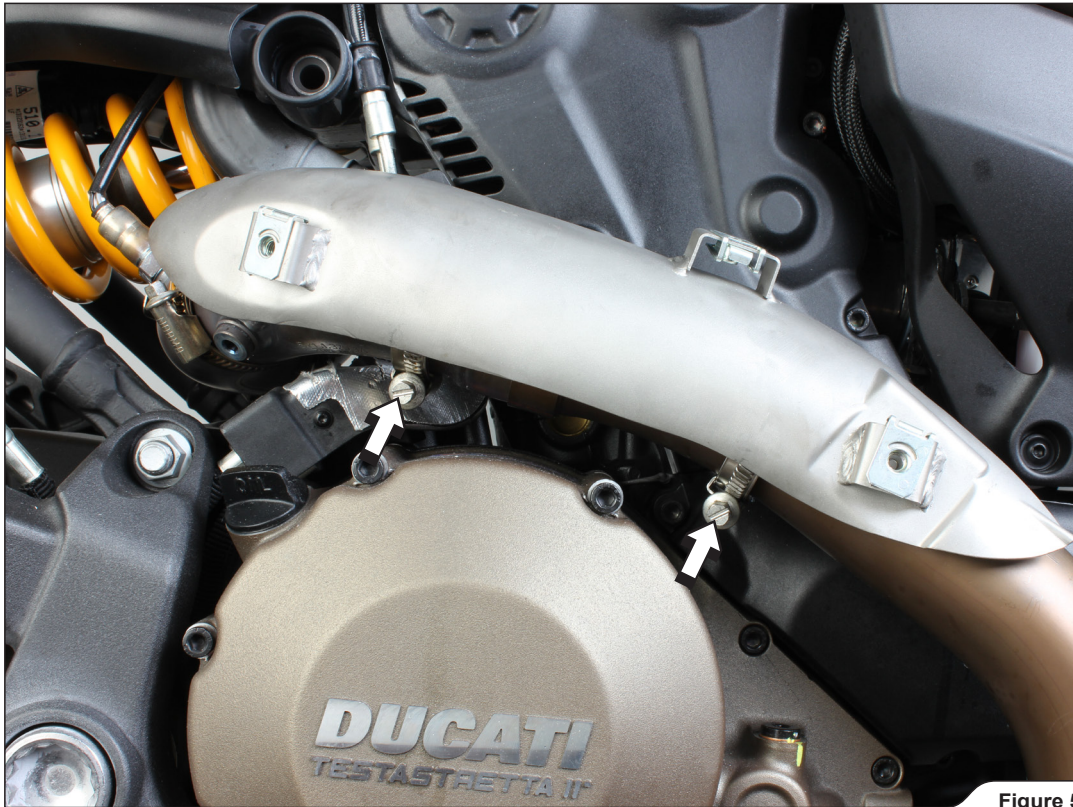

Figure 5
7. Fully unscrew the marked tape clamps and carefully remove the aluminium heat shield (**Figure 5**).